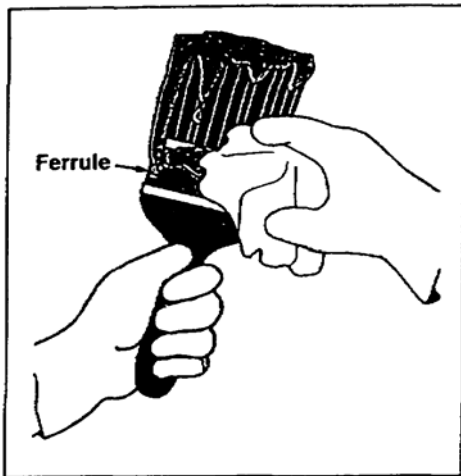

Figure 3-28. Removing paint off the ferrule with a rag
(1) Wear rubber gloves to protect your hands from chemicals. Use a rag to wipe off as much paint as you can from the paintbrush's ferrule (Figure 3-28).